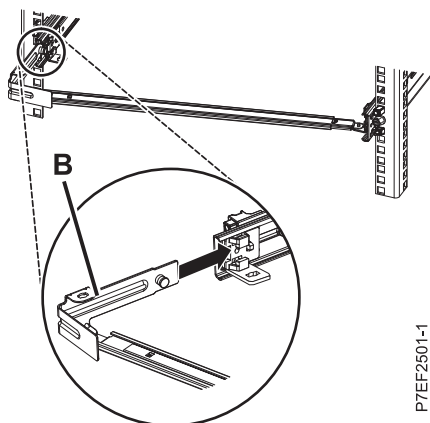

Figure 11. Extending the pin, and installing the bracket into the slide rail
4. Attach the cable-management stop bracket (**B**) to the slot on the inside of the left slide by sliding the stop bracket (**B**) into the slide rail until the spring-loaded pin snaps into place. For details, see Figure 11 on page 10.